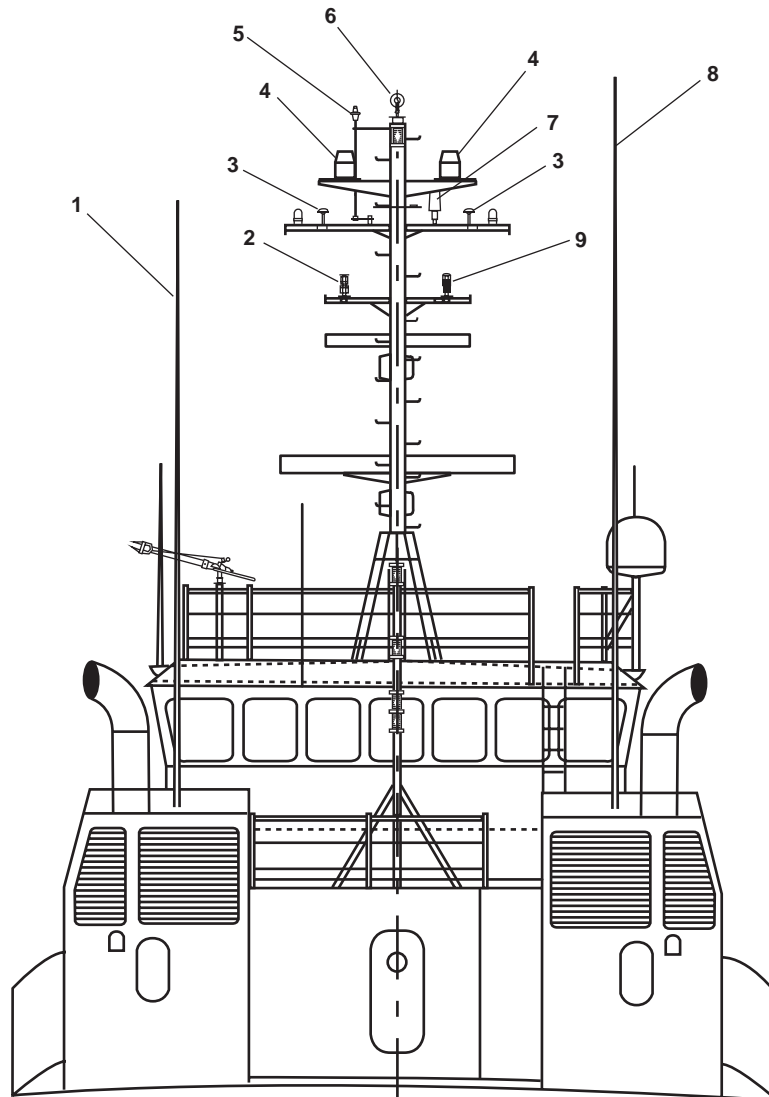

Figure 2. Mast: Aft
1. Medium Frequency (MF)/High Frequency (HF) Global Maritime Distress Safety System (GMDSS) model, 5300 antenna (figure 2, item 1). This antenna is coupled to the MF/HF transceiver for the GMDSS. Refer to TM 55-5825-311-10 for details.
2. Barometric pressure sensor (61202) (figure 2, item 2). This sensor detects exterior atmospheric pressure.
3. Global Positioning System (GPS)/Differential Global Positioning Sensor (DGPS) antenna (figure 2, item 3). This antenna is coupled to the Integrated Bridge System (IBS). Refer to TM 55-5825-311-10 for details.
4. Tactical Satellite (TACSAT) Satellite-On-The-Move (SOTM) GV-2432 antenna (figure 2, item 4). This antenna is coupled with the UHF radio set. Refer to TM 55-5825-311-10 for details.
5. GMDSS J8 INMARSAT Coordinated Algebra (II) & Physics Simulated Satellite (CAPSAT) antenna (figure 2, item 5). This antenna is coupled to the GMDSS. Refer to TM 55-5825-311-10 for details.
6. Marine wind tracker (model 06206) (figure 2, item 6). The marine wind tracker provides windspeed and direction display. The marine wind tracker also provides detailed information on relative wind angle.
7. IFF antenna (AS-1778/UPX) (figure 2, item 7). This antenna is coupled to the vessel's C4ISR system. Refer to TM 55-5825-311-10 for details.
8. HF whip tactical (4201N) antenna (figure 2, item 8). This antenna is coupled to the tactical HF radio system. Refer to TM 55-5825-311-10 for details.
9. Humidity and temperature sensor (figure 2, item 9). The humidity and temperature sensor detects exterior atmospheric humidity and temperature.